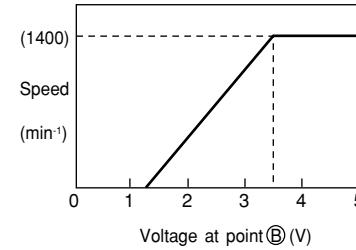

Fig. 7-3
- The pulse is converted into the analog voltage by the R751 and C751 and applied to the fan motor as the speed command voltage. Fig. 7-3 shows the relation between the voltage at the point B and the speed. (Some differences will occur due to the condition of the unit.)
- The fan motor outputs the feedback pulse of the speed, which is input into the pin ④ on the micro computer. This pulse is equivalent to a frequency of 12/60 speed. (Example: $1000 \text{ min}^{-1} \times 12/60 = 200 \text{ Hz}$)